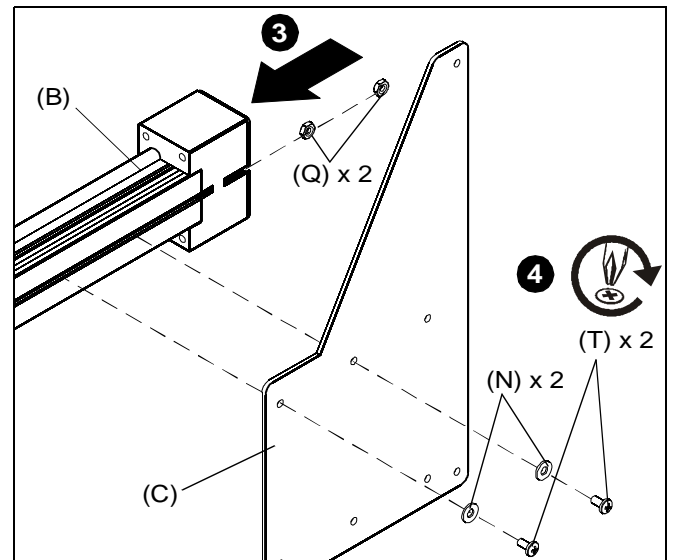

Figure 6
4. Insert two 10-24 hex nuts (Q) into channel at other end of actuator assembly (B). (See Figure 6)
5. Attach upper rail support (C) to actuator assembly (B), inserting two 10-24 x 3/8" Phillips head screws (T) through two 1/4" flat washers (N) and into two hex nuts (Q). (See Figure 6)